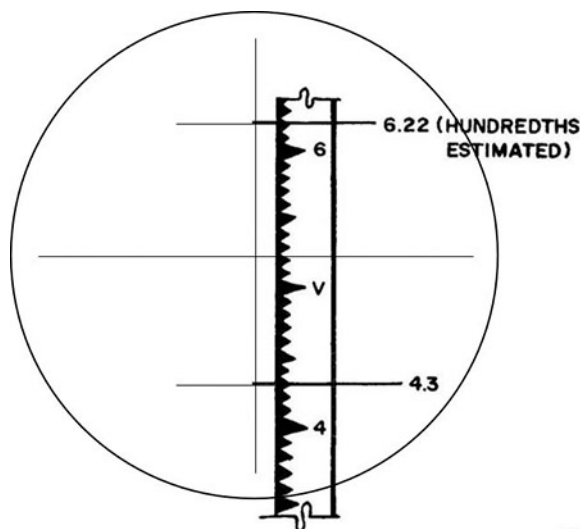

Figure 1-7. Stadia measurement.
The *stadia intercept* is the distance between the stadia lines. Read the rod at the upper and lower stadia lines—in figure 1-7 they are 6.22 and 4.3, respectively. Take readings when the rod person (RP) “waves” the rod forward and backward and are the highest readings the instrument person views. The difference between the two readings (6.22 minus 4.3 equals 1.92 feet [ft.]) is the stadia intercept, *I*. To obtain the horizontal distance, *d*, solve the formula:  $d = (\text{Stadia Interval Factor}) \bullet I$